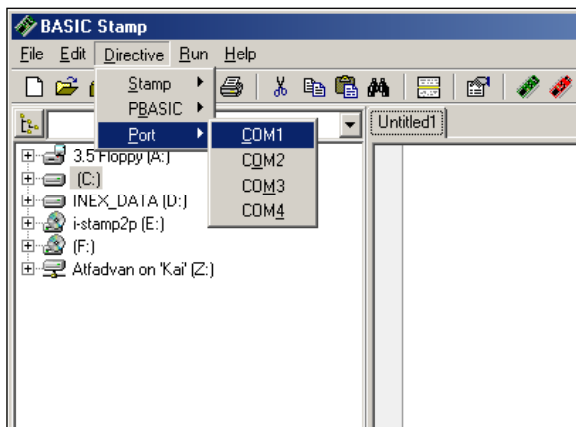

Figure A1-5 Shows "How to select and use Port directive" .
1.5.2 Still stay at Directive menu. Select serial port by Port → Com1 (or any Com port that connect) following figure A1-5. Messge **{ $\$$ SPORT COM1}** will appear at second line. Pess Enter.